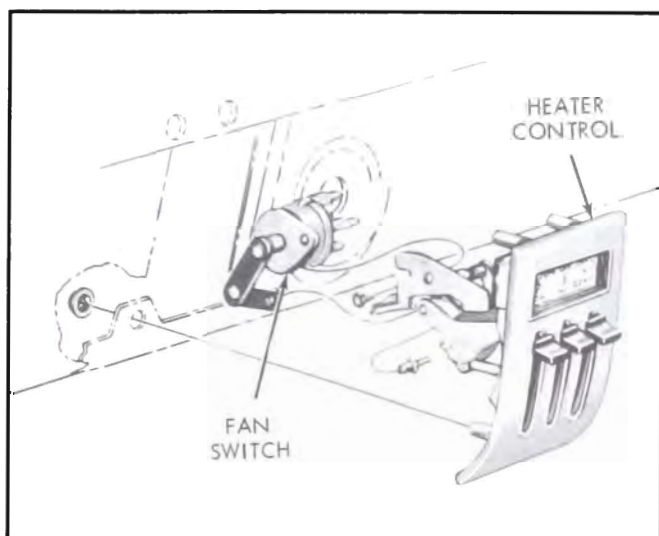

Figure 11-14—Heater Control
2. Remove "Temp" and "Air" lever control wires from levers. See Figure 11-14.